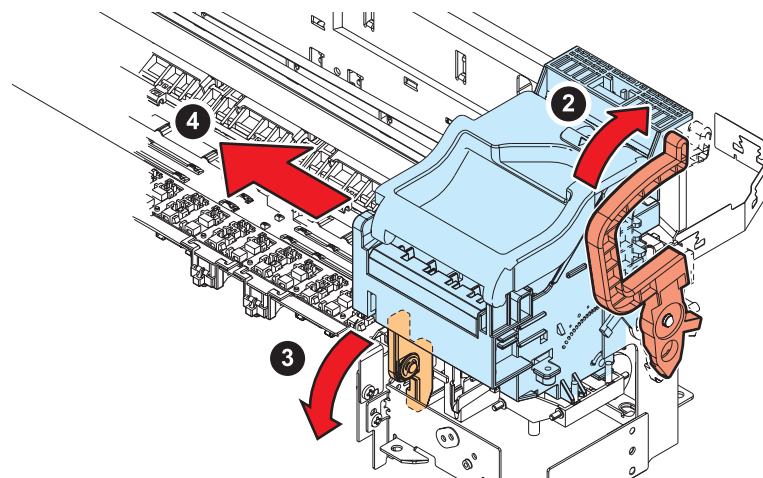

Figure 5-2. PG Adjustment 2
2. Push down the PG Lever rearward (toward the UP side). (See Figure 5-2)